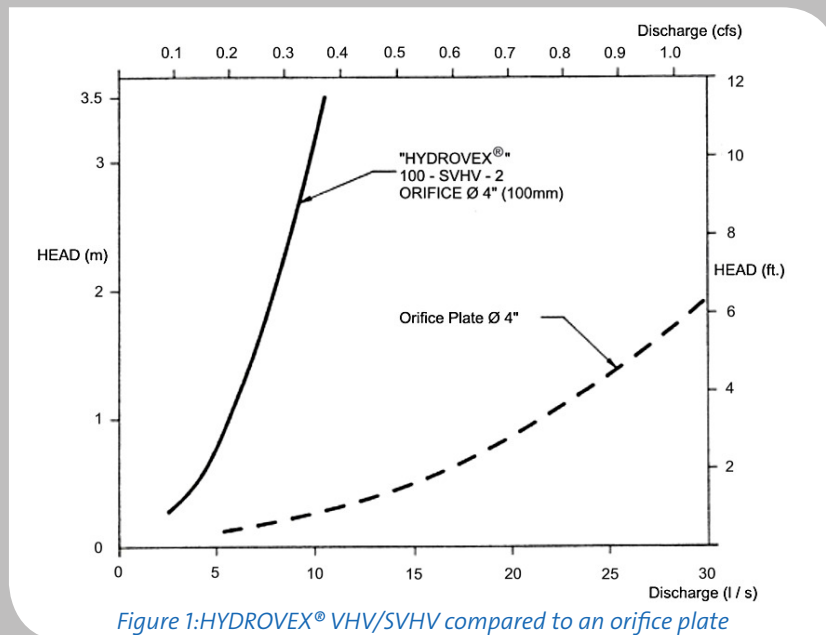

Figure 1: HYDROVEX® VHV/SVHV compared to an orifice plate
Vortex valves have openings typically 4 to 6 times larger than an orifice plate for the same design. Larger opening sizes decrease the chance of blockage caused by sediments and debris found in storm water flows. Figure 1 shows
- Openings typically 4-6 times larger than the basic orifice (Figure 1)